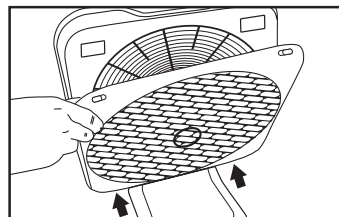

Fig. 13
7. Hold engaged bottom of the grill plate in place and push the top of the grill plate back toward the unit until the release tabs at the top of the grill click back into place. See Fig. 13